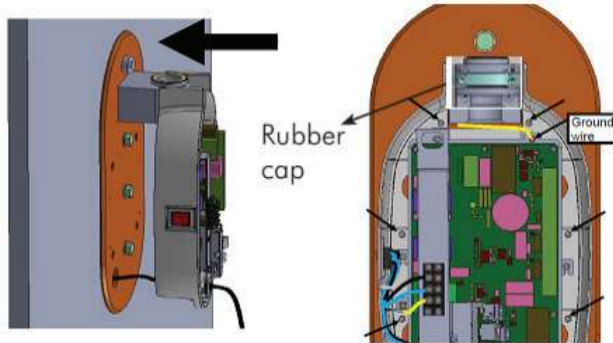

Figure 19: Fix base unit rear cover along with power board assembly and fix ground wire.
- Route the cable and fix the base unit to the base plate with 6 no's of M3x10 socket head screws and M3 plain washers using 2.5mm Allen key as shown in Figure 19 .
- Fix the rubber cap for the top Hexagonal bolt on the base unit plate as shown in Figure 19 .